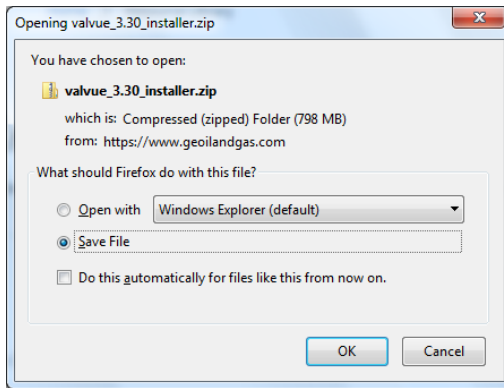

Figure 10 Opening Dialog
2. Use the arrows to move through the selections. Select **Download** below *ValVue V3.30 Installer Download* and Figure 10 appears.